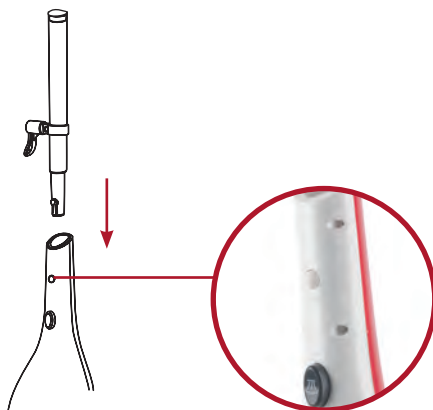

Figure 2
STEP 2: Insert the assembled handle section into the steam mop main body until it clicks into place (figure 2).